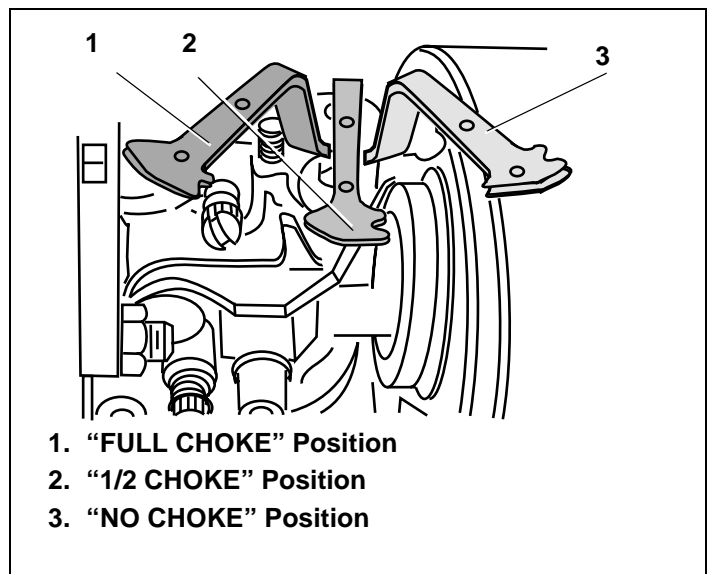

Figure 20. Horizontal Mounted Choke Control
- b. Momentarily move choke control to "1/2 CHOKE" position until engine runs smoothly. See Figures 20 and 21. Afterward, continue reading instructions below.
- a. *Momentarily move choke control back to "FULL CHOKE" position. See Figures 20 and 21.*